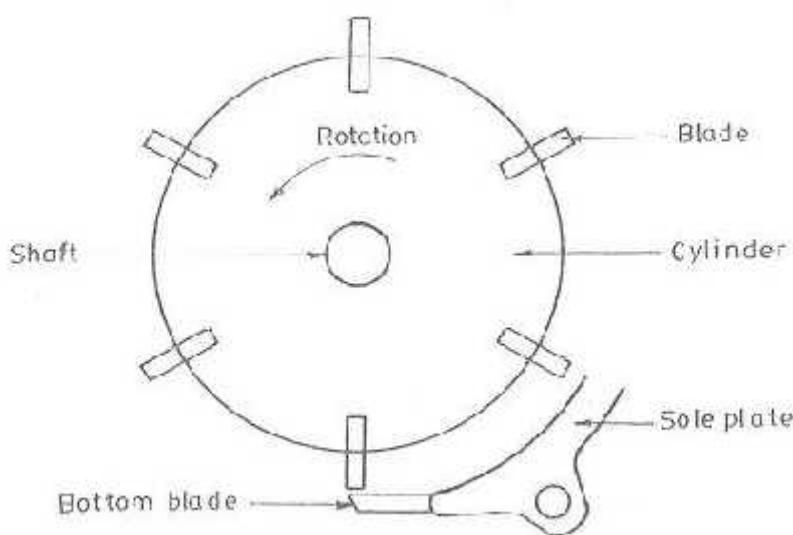

Fig. 1: Side view of a cylinder mower.
- The farmer should buy only those threshers, which are fitted with safe feeding chute as per B.I.S. standards (Fig. 1). For safety, the minimum length of feeding chute should be kept 90 cm, covered upto a minimum of 45 cm and inclined to the horizontal at an angle of 5-10 degrees. The angle of covered portion with the base length of feeding chute should be kept equal to 5 degrees.